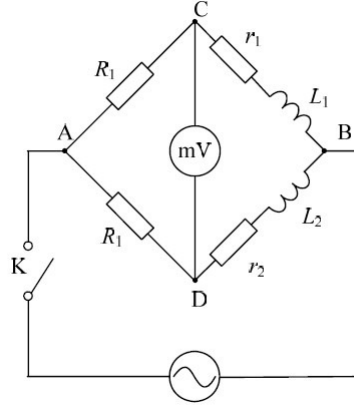

Figure 5. AC bridge.
Figure 5 shows a *RL* AC bridge used in this experiment. The input current source is supplied by a signal generator, allowing to chose a suitable (high) output frequency. The elements  $Z_1$  and  $Z_2$  are resistors, whereas  $Z_3$  and  $Z_4$  are inductors with a finite resistance  $r_1$  and  $r_2$ , respectively. The impedances of these four elements are
1. Properly set the AC measurement range on the multimeter and assemble the circuit according to Figure 5.
- ▶ In this exercise, because of imperfections of the coils and the resistances, the AC bridge (Figure 5) cannot be exactly balanced even if the magnetic material is not placed in the apparatus. Why can we still use this AC bridge to measure the Curie temperature?